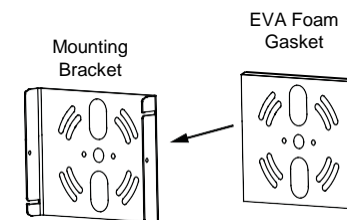

Figure 2
3. To provide an effective moisture seal over the junction box, apply the enclosed EVA foam gasket to the back of the mounting bracket (see Figure 2).